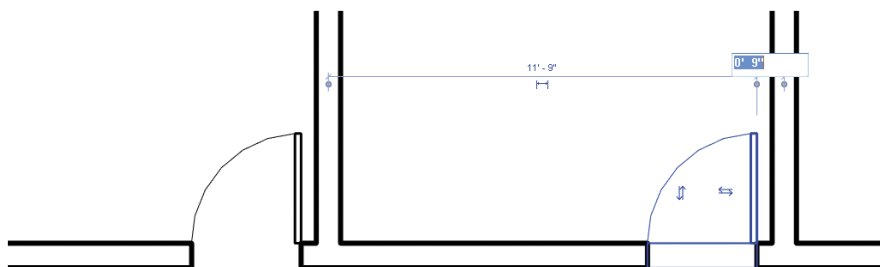

FIGURE 2.9 Hosting doors in a wall
5. Click the temporary dimension text, which allows you to enter 9" (230 mm) (Figure 2.9).